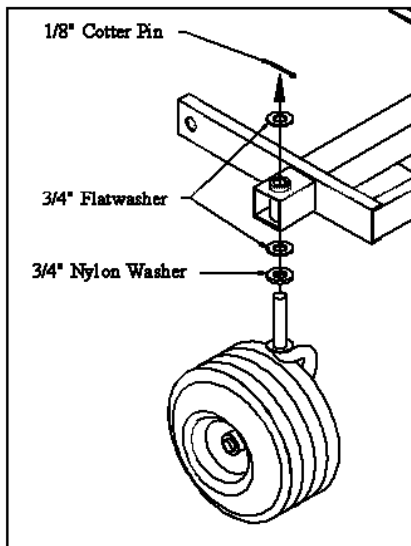

Fig. 1
1. Slip one nylon washer (30) over each caster yoke (7) pin. Slip one 3/4" flatwasher over each pin. Insert caster into frame (1). Slip another 3/4" flatwasher over pin and secure with 1/8" cotter pin. **Fig. 1**